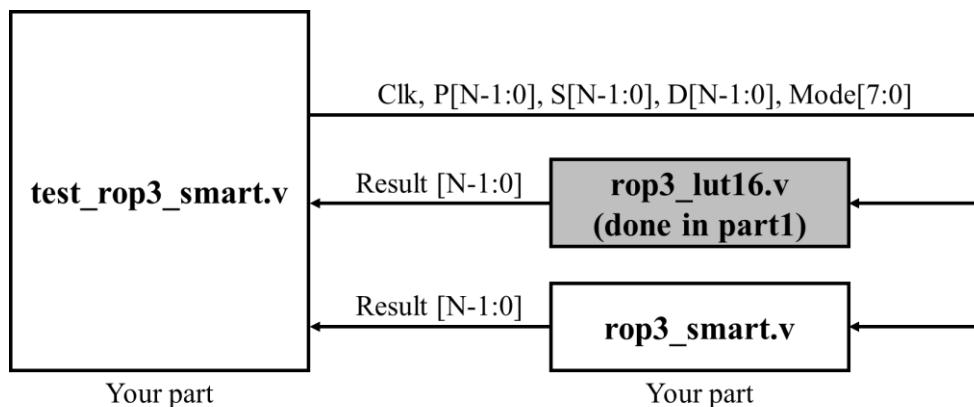

Figure 3: Part 2 Architecture
*This testbench should send identical inputs to both modules(`rop3_lut16`&`rop3_smart`), and compare their computation results. A reference testing architecture is shown in Figure 3.